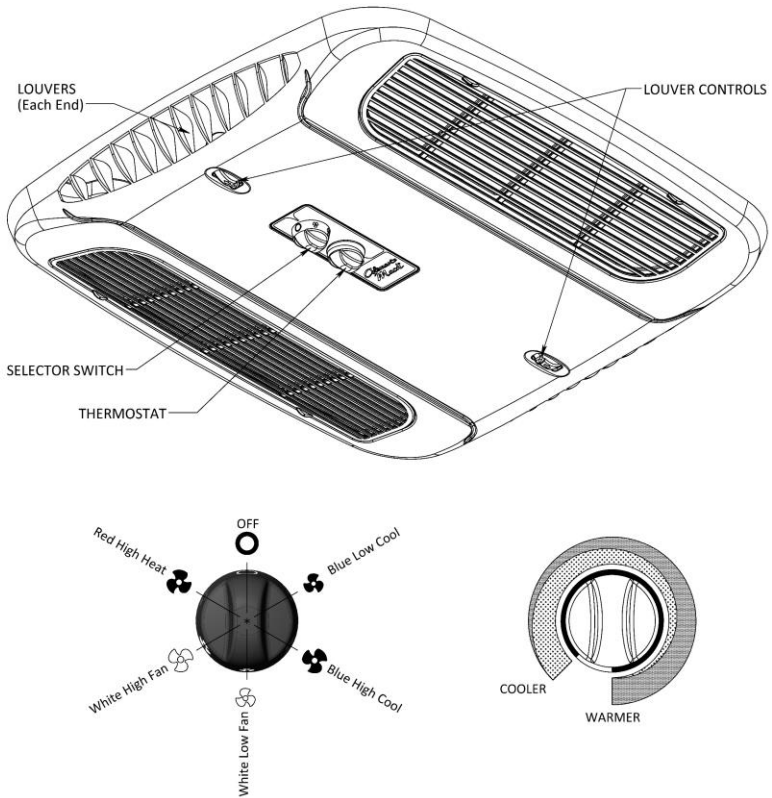

FIGURE 1
- A. **The Selector Switch** – The selector switch determines which mode of operation the heat pump will be in. By rotating the selector switch, the operator can obtain any system function desired. System functions vary depending upon options of both the rooftop unit and ceiling assembly. Figure 1 shows selector switch location and lists all available functions by model. The “Operation” section explains the operational characteristics of each mode of operation.
For Cooling (Refer to Figure 1).
For Heating Operation (Refer to Figure 1, page 10)
For Air Circulation Only (Refer to Figure 1, page 10)